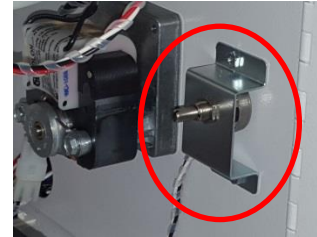

Figure 9 - Coating height adjusting potentiometer
3. Adjust the height of the coating discharge to be at the top of the coating bowl by turning the “Coating pump” potentiometer. The potentiometer, shown in Figure 9, can be found by opening the front service panel and looking on the right side wall. Make sure the height is neither too low nor too high.